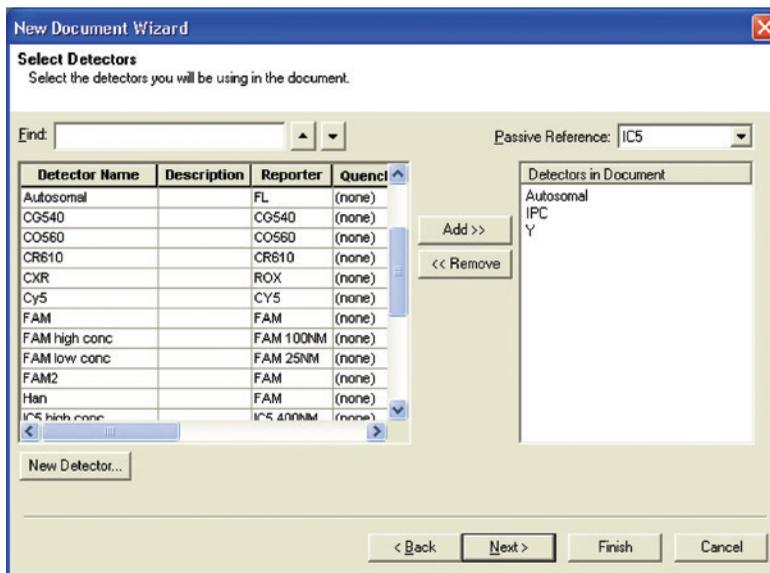

Figure 24. Selecting the detectors and passive reference in the New Document Wizard window.
6. Highlight the line with the appropriate detector name and reporter dye for the assay. Select “Add” (Figure 24). Repeat for each fluorescent dye being used.